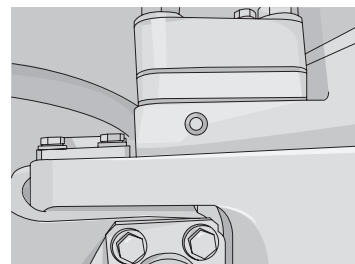

Figure 4-6
7. Oblique arm's spherical hinge (Straight tilt blade) (Figure 4-6) 2 places